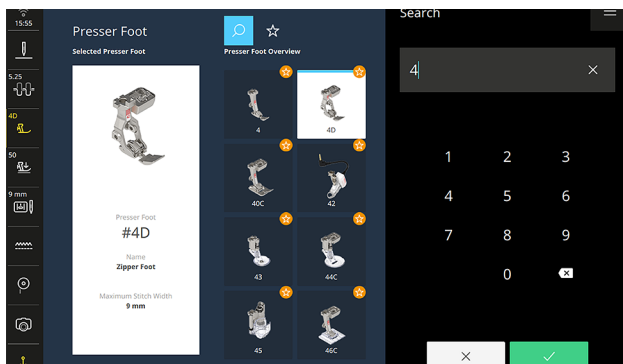

Fig. 7
2. Select Zipper Foot #4D using the Search function and typing “4” (Fig. 7).